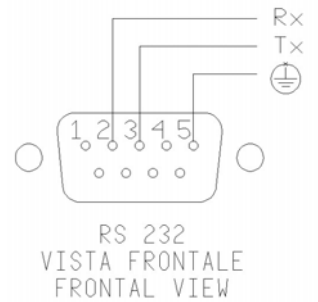

Fig.8
- Connect the terminals of the thermostat to the socket (4).
For PC control use the serial communication RS 232 (5) (references fig.8)